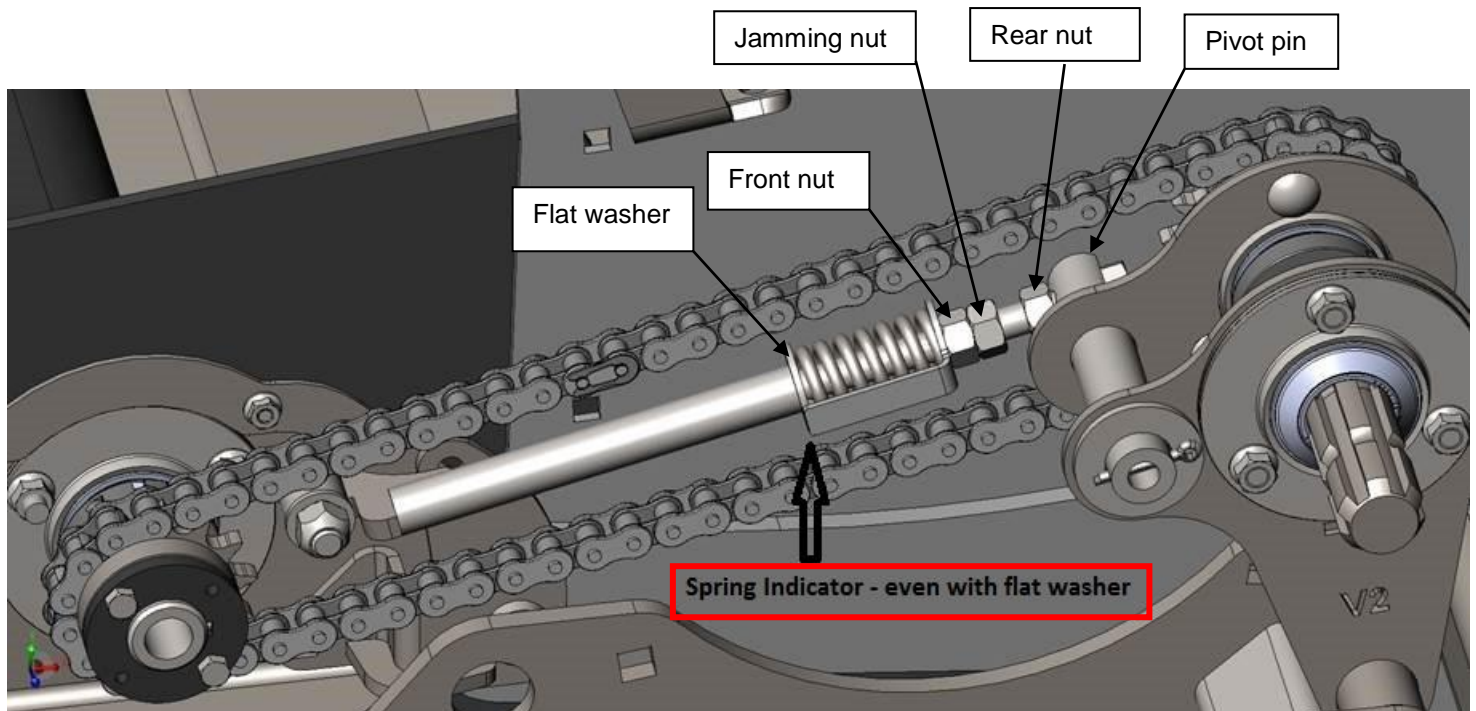

Figure 1
**Solution:** If possible, use the combine to lift the header off the ground, and retract the tilt cylinder all the way. Ensure the rear nut of the tension rod is tight against the pivot pin, keeping the tension rod (bolt) in position. The tension on the drive chain is correct when the spring indicator is even with the flat washer. The adjustment is obtained by tightening the front nut. Once the proper tension is achieved the second nut should be jammed against the front nut holding the spring position. See call outs in Figure 1.